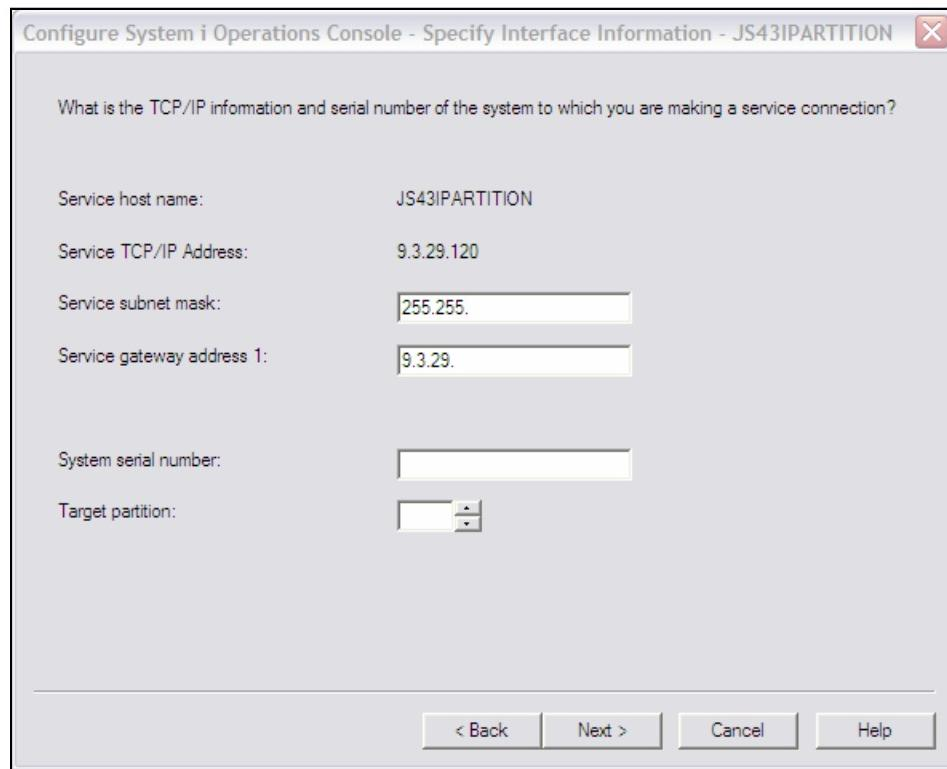

Figure 7-40 Specify Interface Information
7. After providing an IP address, the wizard will now ask for the subnet mask, gateway, serial number and partition id as shown in Figure 7-40 on page 287